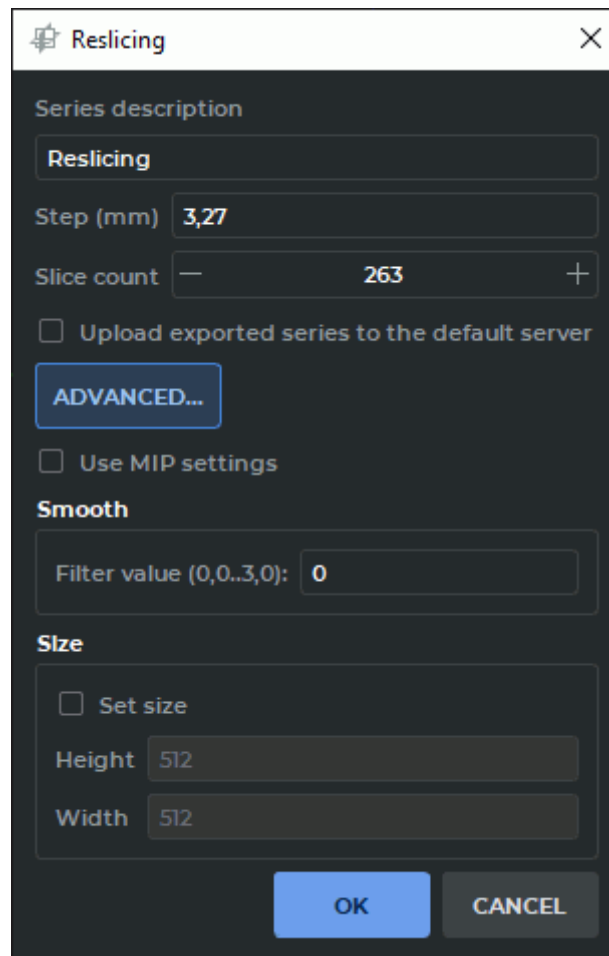

Figure 5.26: Reslice dialog box with additional parameters
7. To set additional parameters for the series, click on the **ADVANCED...** button. The dialog box with additional parameters is shown in Fig. 5.26.